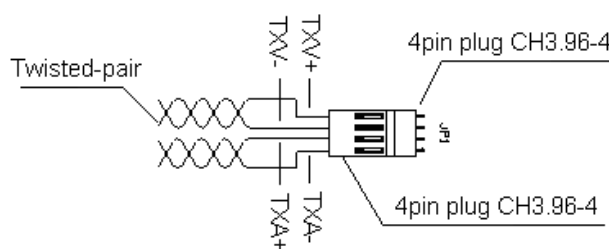

Fig. 6.32 Connection of Communication Lines
1. The connection of the display Board for power supply and communication is shown in Fig. 6.32, the power supply and communication is made available via a 4-pin plug, of which Pin 1 for TXV+, Pin 2 for TXV-, both with DC24V power supply; Pin3 for TXA+ and Pin 4 for TXA- are communication lines. The lines for communication must be **Twisted Pairs**.